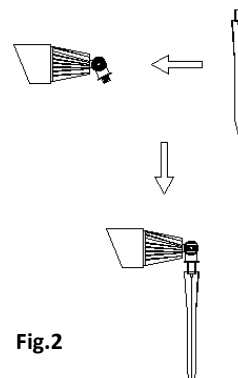

Fig.2
- Spike it into soft ground. Adjust lamp aiming direction before installation(Fig.2)